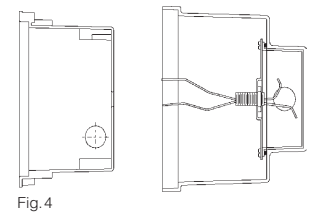

Fig. 4
7. Using the 18 gauge wires and wire nuts provided, make "jumper" wire connections to the #12 building wire in the CPC junction box. Route the 18 gauge wire through the cover plate and 1/4" IP threaded nipple (Fig. 4). Secure the cover plate to the through wiring box using the two #8 screws provided.